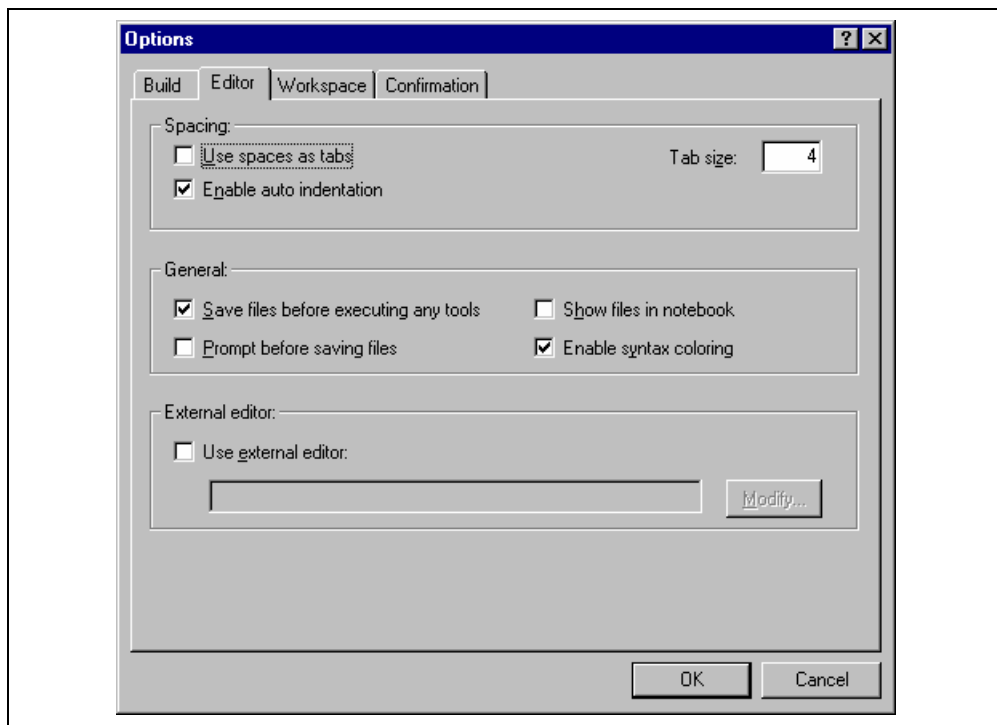

Figure 6.11: Options Dialog Editor Tab
1. Select **[Tools->Options...]**. The “Options” dialog will be displayed. Select the “Editor” tab (figure 6.11).
The High-performance Embedded Workshop allows you to customize file save on the “Editor” tab of the “Options” dialog (figure 6.11). To open the tab, select **[Tools->Options...]** and click the “Editor” tab.